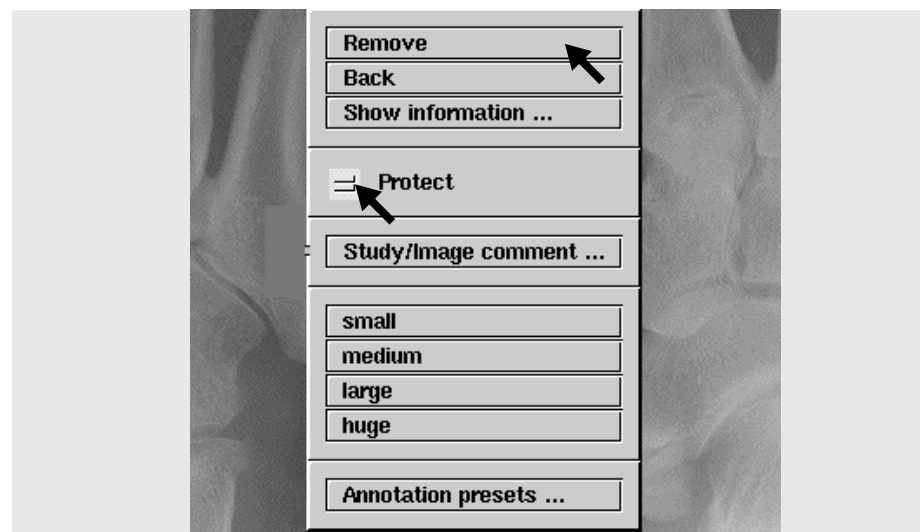

Fig. 5.19 Context menu
- The context menu appears (see Fig. 5.19).
- 1 With the **right** mouse button, click on the image on the display area (see Fig. 5.19).